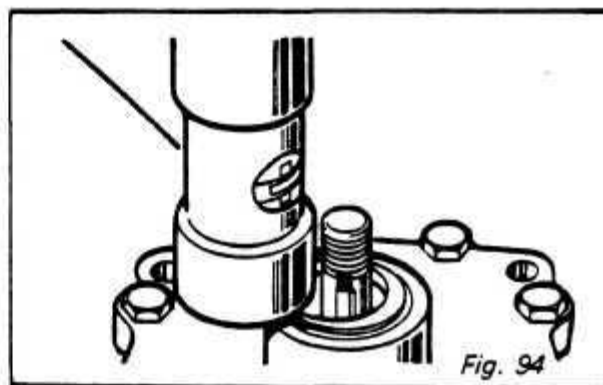

Fig. 94
Step 10 — Re-install clutch front plate. *Fig. 94*